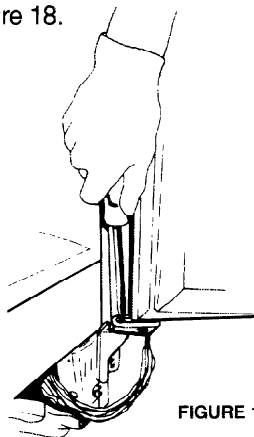

FIGURE 18
2. Open refrigerator door to gain access to door closure screw. See Figure 18.
3. Unscrew bottom refrigerator door closure with a phillips screwdriver. See Figure 18.